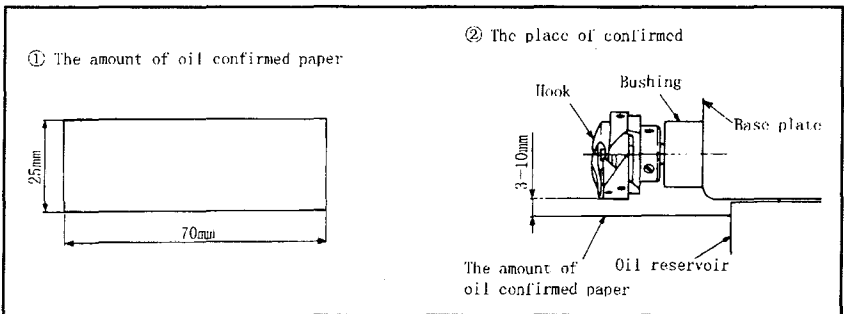
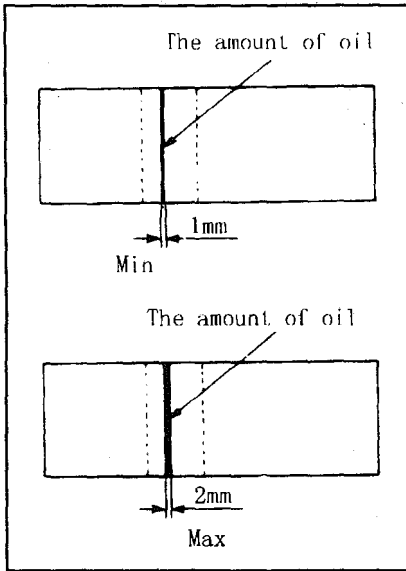
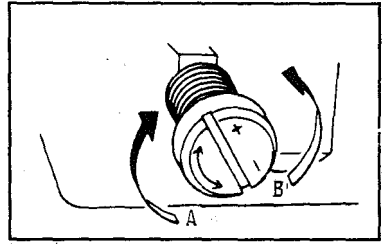

Fig.7
Fig.8
Fig.9
3. ADJUSTING THE AMOUNT OF OIL SUPPLIED TO THE HOOK (Fig. 7 , Fig. 8 , Fig. 9)
- 1) After cooling, the machine may be idling for three minutes (operating continued properly). (Fig. 7)
* The proper amount of oil manual (Fig. 8)
*** Adjusting the amount of oil supplied to the hook (Fig.9)**